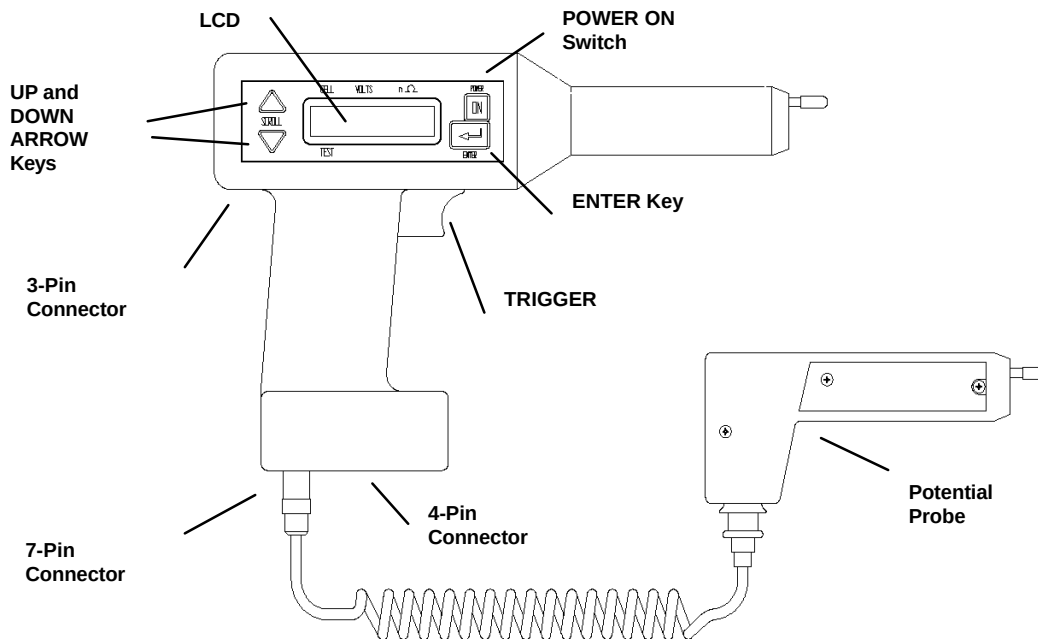

Figure 4-1: Receiver controls, connectors and indicators
2. Using the wand adapter cable, insert the wand into the 7-pin connector on the **receiver**. (See Figure 4-1 on page 28 for the location of the 7-pin connector.)